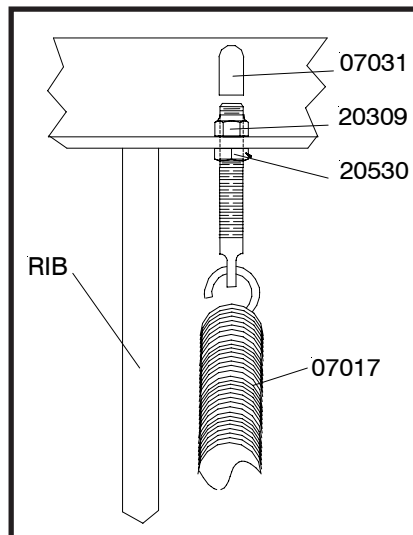

Figure 1
- B. Attach Pivot Bar (15) to Moldboard Frame Weldment (3) with Pivot Pins (20 & 21) (grease fitting facing outward) and insert Cotter Pins (22). Grease outer Pivot Pin's (21) using grease fitting.
- C. Attach Eye Bolts (19) to Moldboard Frame Weldment (3) and Trip Springs (17) to Pivot Bar (15), making certain locknuts are positioned as shown in Figure 1.
- D. Make certain each Eye Bolt (19) is in a vertical position as shown in Figure 1 so that the Eye Bolt (19) and Trip Spring (17) hinge properly when moldboard trips.
Note: Proper tension is attained when Trip Spring (17) coils just begin to separate and then tightening top locknut four additional turns. Tighten bottom Locknut (20530) to secure Eyebolt in position. Install Eyebolt caps (07031) over exposed threads. See Figure 1.
- E. Attach A-Frame (16) to Pivot Bar (15) using King Pivot Bolt (23), Hex Nut Slotted (24) and Cotter Pin (22). **IMPORTANT:** Install King Pivot Bolt (23) from top so that grease fitting is easily accessible. Grease King Pivot Bolt (23) using grease fitting.